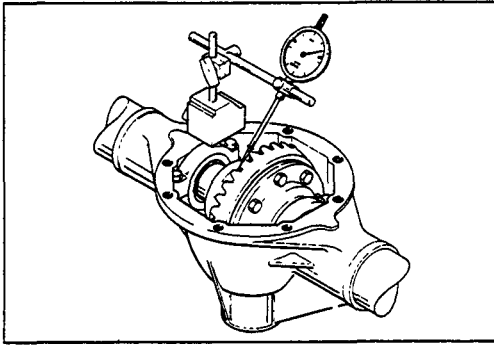

Figure 22
2. Mount a dial indicator as if to measure ring gear backlash (i.e. probe on gear tooth), but do not measure backlash stage as this will 'unsettle' the bearings by turning them in the opposite direction. (Fig. 22).